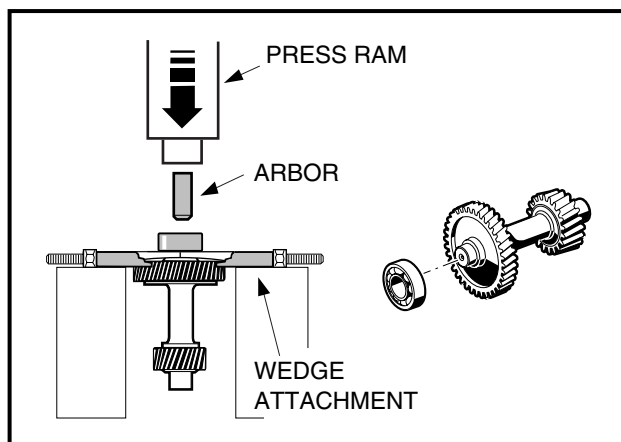

Figure 7-24 Remove Idler Shaft
2. Place a bearing puller wedge attachment (CCI P/N 1012812) between the bearing and the larger gear on the idler shaft (66) (**Figure 7-16, Page 7-9**), then press the bearing off the shaft as shown (**Figure 7-24, Page 7-14**).